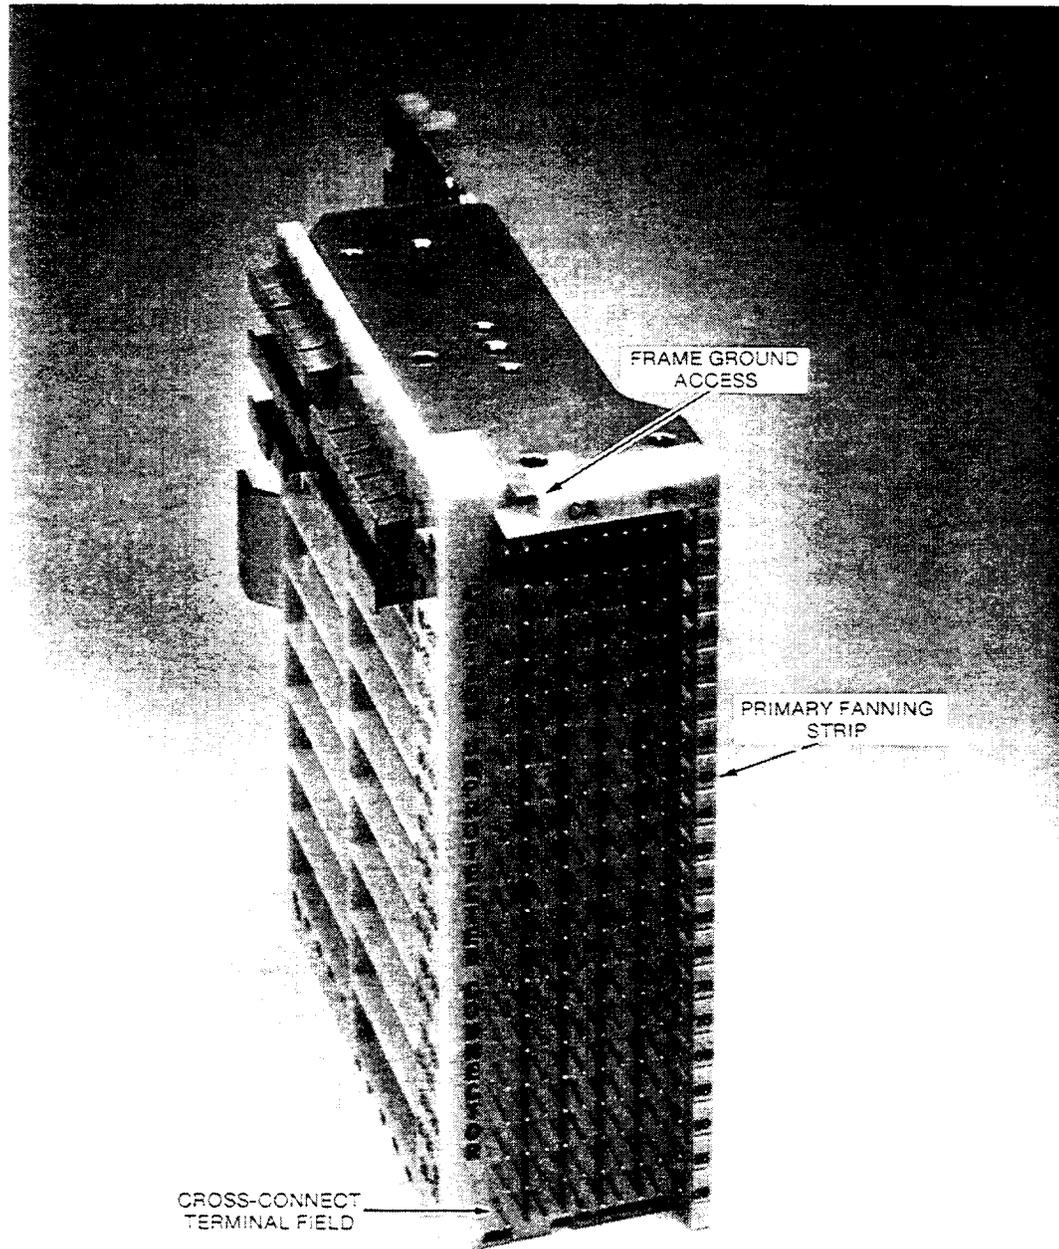
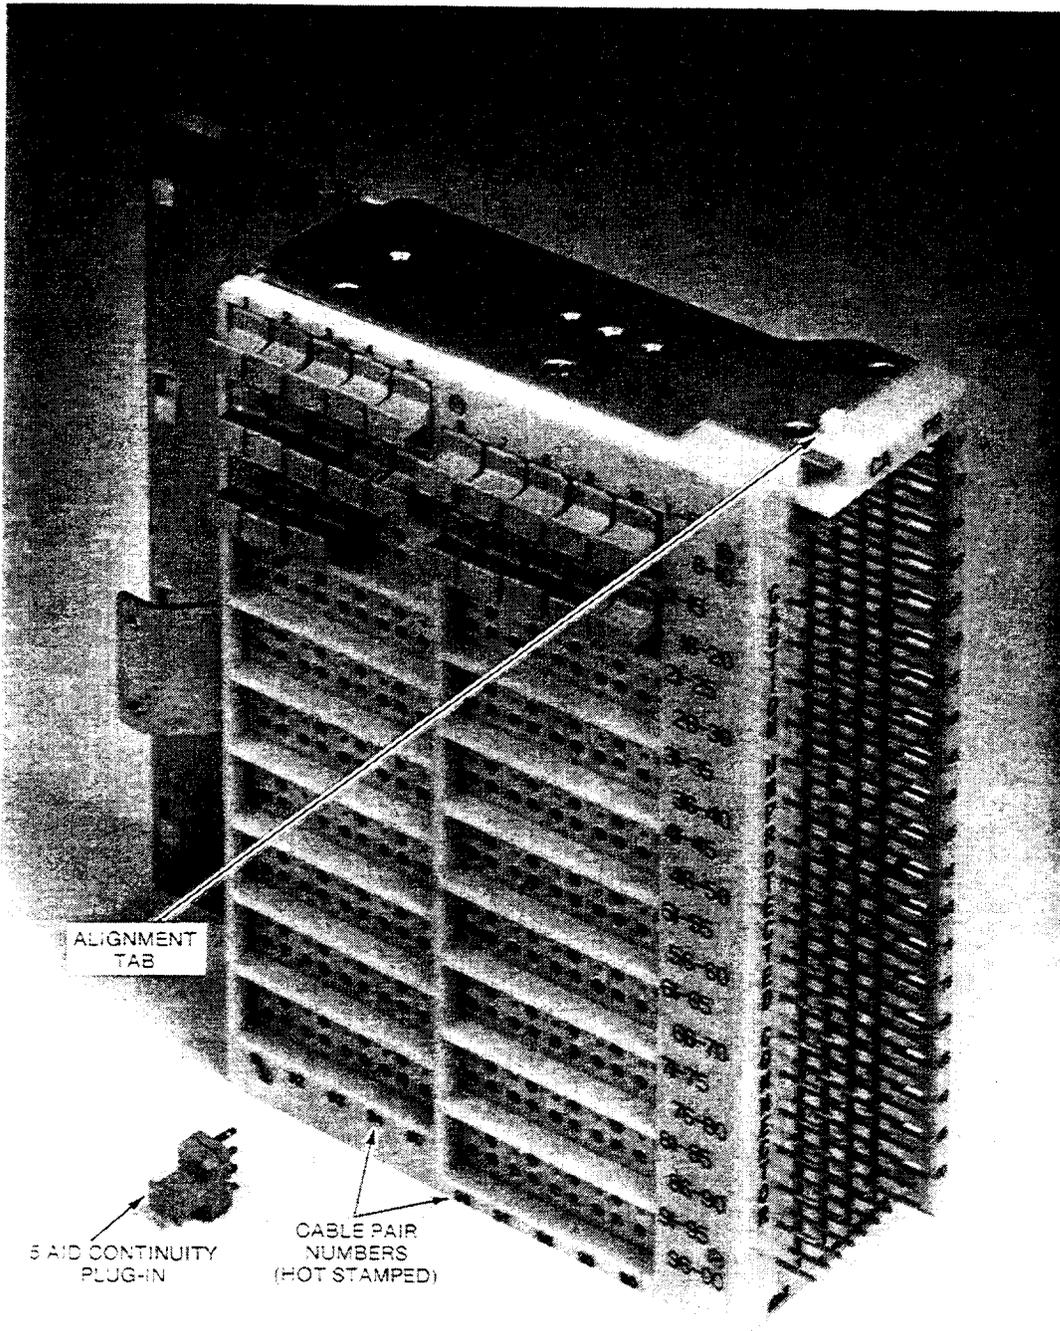

Figure 4. 410-Type Connector — Front View
Figure 5. 410-Type Connector — Left Side View
arrangement. The 410M-type connector mounting bracket is at a 12.5-degree angle to provide improved visual and physical access to the plug-in field while maintaining front access to the cross-connect field. Figure 3 shows the 410-type and 410M-type connectors. Figure 4 shows the 410-type connector front view. Figure 5 shows 410M-type connector left side view.
**2.04** A front-facing cross-connect field (toward the work aisle) and snap-through fanning strips simplify cross-connects and facilitate running jumper wires. A single wire-wrap cross-connect field is offered that has bridging or back-tapping capability and is compatible with the 89-type high density central office connecting blocks. (See Figures 4 and 5.)